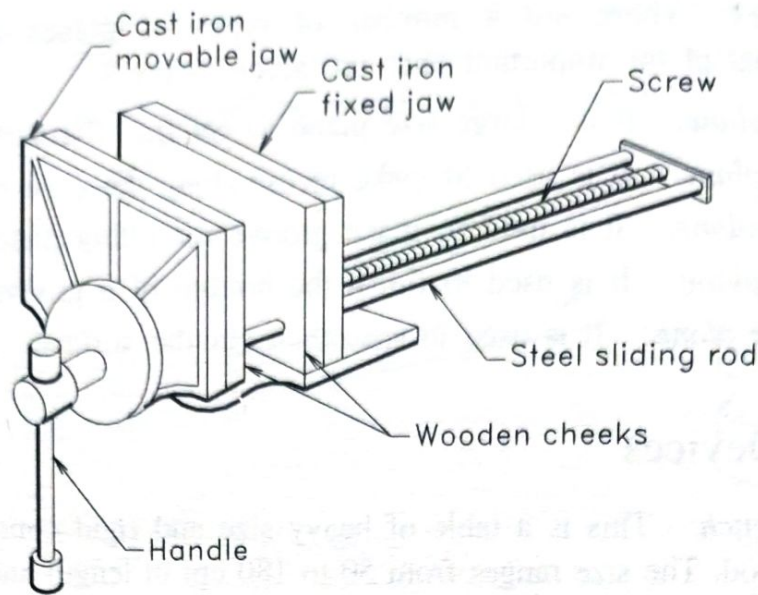

FIGURE 6.10
2. *Carpenter's bench vice:* The most common type of bench vice used in a carpentry shop is shown in Figure 6.10. It consists of a jaw fixed on the table side and a movable jaw kept in position by means of a screw and a handle. The body of vice is made of cast iron or steel. The jaws are lined with hard wood which can be renewed when it is damaged. The screw works inside a fixed half nut which can be engaged or disengaged by operating the lever. By pulling the lever the nut is disengaged from the screw allowing the jaw to move fast. When the lever is released, the nut engages and the screwing action is obtained.